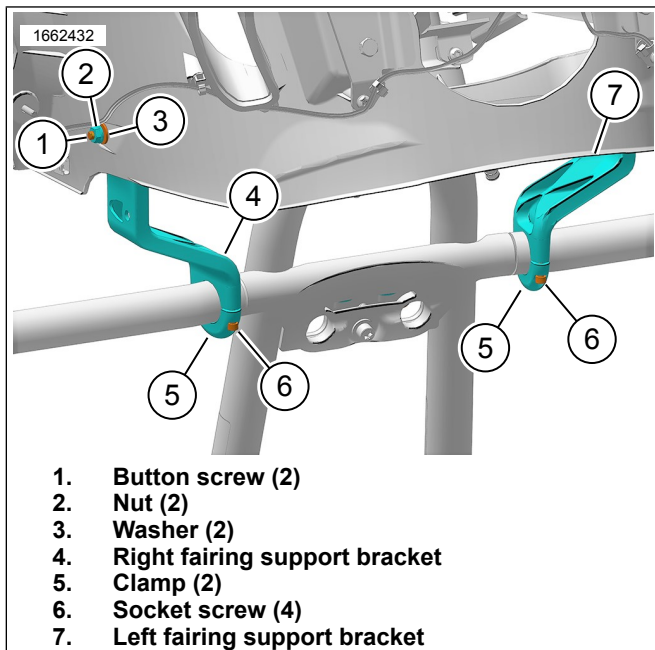

Figure 7. Brackets Installed
1. See Figure 7. Position right fairing support bracket (4)
- a. Rest bracket (1) on engine guard.
2. Loosely install button screw (1), washer (3) and nut (2).
- a. Use washer (3) that was previously removed.
3. Install clamp (5).
4. Loosely install screws (6).
6. Tighten screws (1).